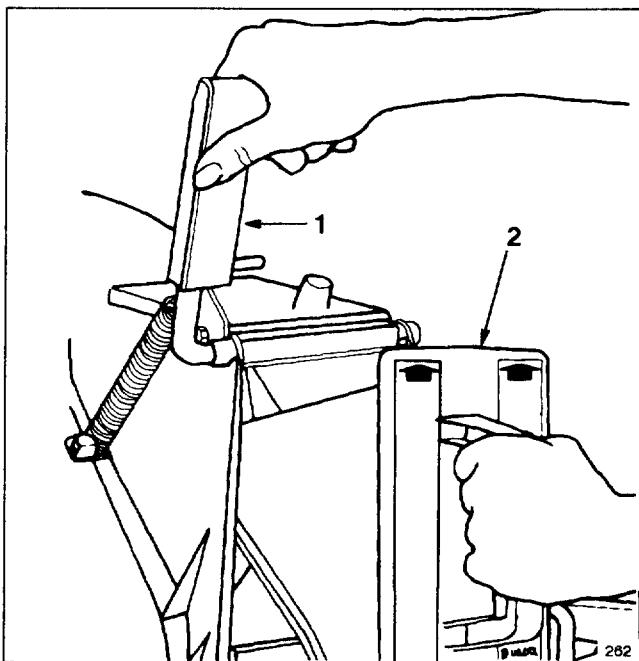

Figure 2
3. Since the plug is slightly wider than the discharge tunnel opening, rotate the plug clockwise slightly while inserting it (Fig. 2). Make sure the arrow on the plug decal is pointing upwards.
2. Open the discharge door by pulling forward on the handle and moving it rearwards (Fig. 2). Hold the discharge door handle to prevent the spring-loaded door from closing while inserting the plug.